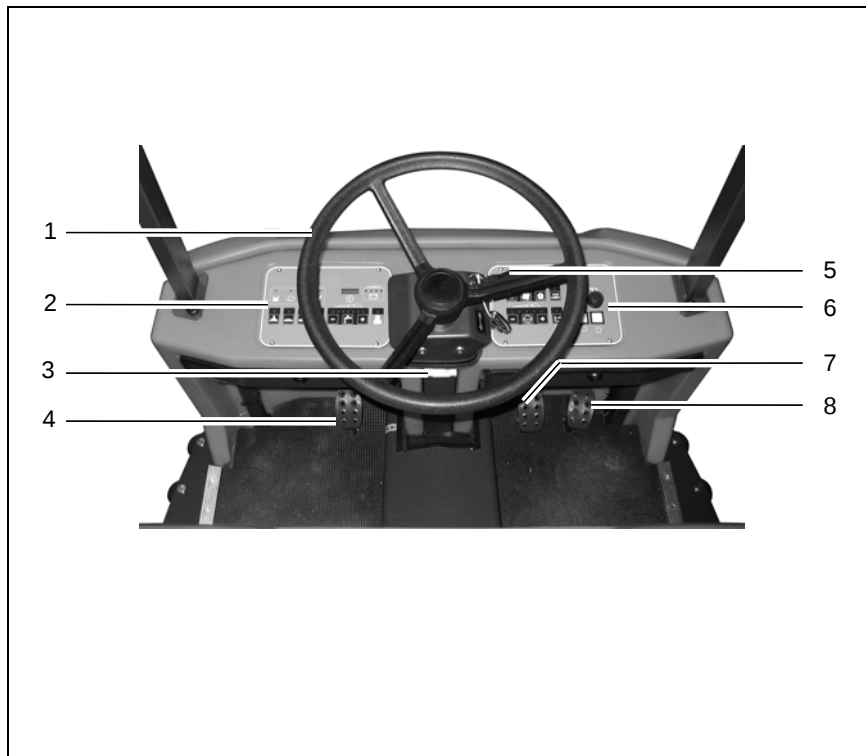
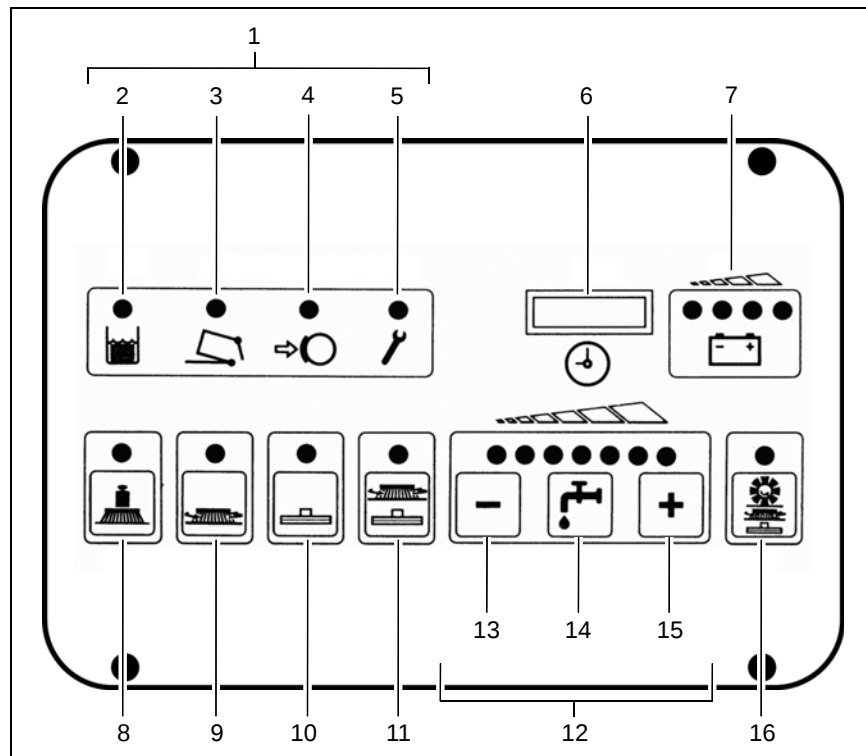

Fig. 21
Fig. 22
(Fig. 21/1)
(Fig. 21/2)
(Fig. 21/3)
(Fig. 21/4)
- When the parking brake is applied, the corresponding control lamp on the operating panel (Fig. 22/4) lights up red.
Before getting out of the vehicle apply the parking brake, set the driving direction switch (Fig. 21/5) to its neutral position and switch the key switch to off.
(Fig. 21/5)
Right-hand operating panel (Fig. 21/6)
Service brake (Fig. 21/7)
Accelerator to drive forwards and backwards (Fig. 21/8)
- Before actuating the accelerator, use the driving direction switch (Fig. 21/5) to set the direction of travel: forwards or reverse.
- To stop securely, apply the service brake (Fig. 21/7).
An acoustic warning signal (buzzer) is issued should the drive motor overload. At the same time, the red alarm lamp (Fig. 21/5) lights up in the left-hand operating panel (Fig. 22/2) and the driving speed is reduced by approx. 50%. In addition, an error code appears in the service indicator (Fig. 22/6).
3.2.2 Left-hand operating panel (Fig. 22)
(Fig. 22/1) The indicator field enables the scrubber-drier to provide feedback on the operating status of the vehicle. This only relates to operating states which cannot be switched on and off via the operating panel: recovery tank full, dirt hopper for pre-sweep/vacuum unit full, parking brake applied and error message.
(Fig. 22/2) The yellow control lamp lights up when the recovery tank has reached its maximum fill level. Also, a "beep" signal is issued every 15 seconds. In this case, a float switch switches the suction turbine off and the squeegee is raised.
(Fig. 22/3) The control lamp lights up red when the dirt hopper is not properly inserted (engaged) or the front flap is not properly closed.
(Fig. 22/4) The control lamp lights up red when the parking brake has been actuated via the pedal to the left of the steering column. If the traction drive is switched on, an acoustic signal is also issued.
(Fig. 22/5)
At the same time, a four-digit code appears in the display of the service indicator (Fig. 22/6). This error code infers which fault has occurred (refer to Section 3.5.1). At the same time, the control lamps flash and an acoustic signal is issued.
(Fig. 22/6) The four-digit LED serves to display the operating hours.
(Fig. 22/6) The four-digit LED serves for a more accurate determination of function faults. If a
Battery and charge control indicator (Fig. 22/7)
Button for brush pressure (Fig. 22/8)
Button for the brush drive (Fig. 22/9)
(Fig. 22/10) This button serves to switch the suction turbine on and off with simultaneous lowering and raising of the squeegee. If the function is active, the green control lamp lights up.
(Fig. 22/11) After pressing the button, the most important basic functions for standard cleaning are automatically activated/deactivated in the correct sequence of use: suction turbine, brush rotation, fresh water supply and lowering or raising the brushes and squeegee. When the vehicle is ready for use in accordance with requirements, it can be set into operation simply and quickly by pressing the button. When the button has been pressed, the green control lamp lights up.
(Fig. 22/12) The fresh water consumption used during cleaning can be regulated in seven stages. Accordingly, there are seven green control lamps on the keypad. Each lamp relates to one stage. The maximum quantity which can be used for cleaning is 7.5 l/min (all seven lamps are on). The minimum quantity is 1.3 l/min (only the left lamp is on). The last fresh water quantity selected is always used. When the scrubbing program is switched on for the first time, a fresh water quantity of approx. 3.5 l/min is automatically set.
(Fig. 22/13) The button serves to reduce the fresh water quantity supplied to the brushes. The fresh water
(Fig. 22/15) The button serves to increase the fresh water quantity supplied to the brushes. The fresh water